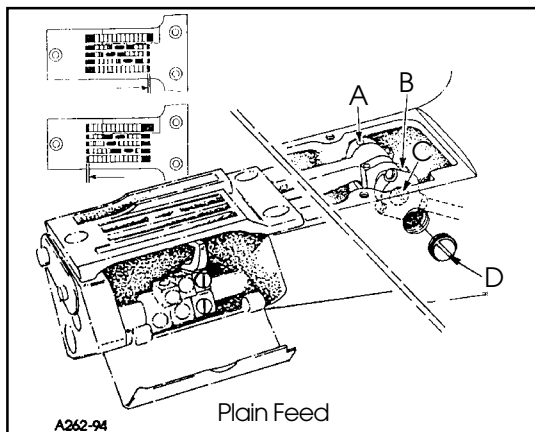

FIG. 10
The feed should be set so there is equal clearance between the front of the feed dog and the front of the feed slot in the throat plate when the feed dog is at its most forward travel. The same amount of clearance should be between the back of the feed dog and the back of the feed slot in the throat plate when the feed dog is at its most rearward travel. To attain this setting loosen screws (A and B, Fig. 10) and remove plug screw (D). Using a screw driver turn eccentric pin (C) clockwise or counter-clockwise to obtain proper setting. Tighten screws (A and B), reinstall plug screw (D).